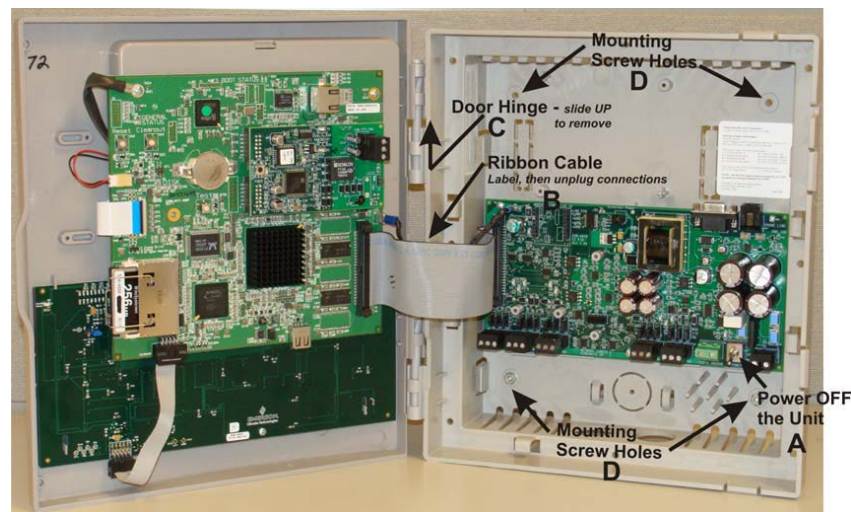

Figure 1 - E2 Version 4.0
1. Open the case of the E2 unit to be removed and power down the unit (Refer to A in Figure 1).
2. Before disconnecting cables, label all communication and power connections in the E2 being removed for easy identification when the cables are reconnected to the new unit (Refer to B in Figure 1).
4. From the main circuit board, remove the Ethernet and ribbon cables (Refer to B in Figure 1). Also remove any communication cards mounted inside of the case above the PIB board (if applicable).
5. Slide the door off the case, which will make it easier to remove the back of the unit from the wall (Refer to C in Figure 1).
6. Remove the 4 screws that mount the unit to the wall and remove the unit (Refer to D in Figure 1).
7. Verify that the new unit is powered down before mounting (Refer to A in Figure 1).